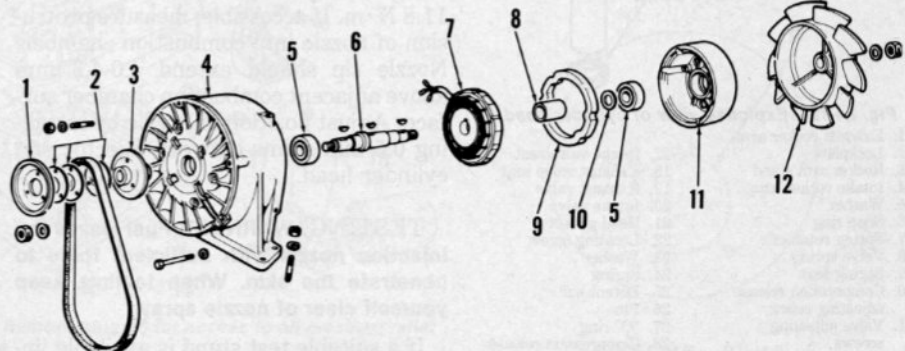

Fig. L4-10—Exploded view of cooling fan.
All models are equipped with an axial cooling fan to force air past the cylinders. The fan housing (4—Fig. L4-10) is mounted on the crankcase. Alternator (7) is contained in the fan housing with the alternator rotor mounted on shaft (6).
Overhaul is evident after inspection of unit and referral to Fig. L4-10. Adjust belt tension as previously outlined.